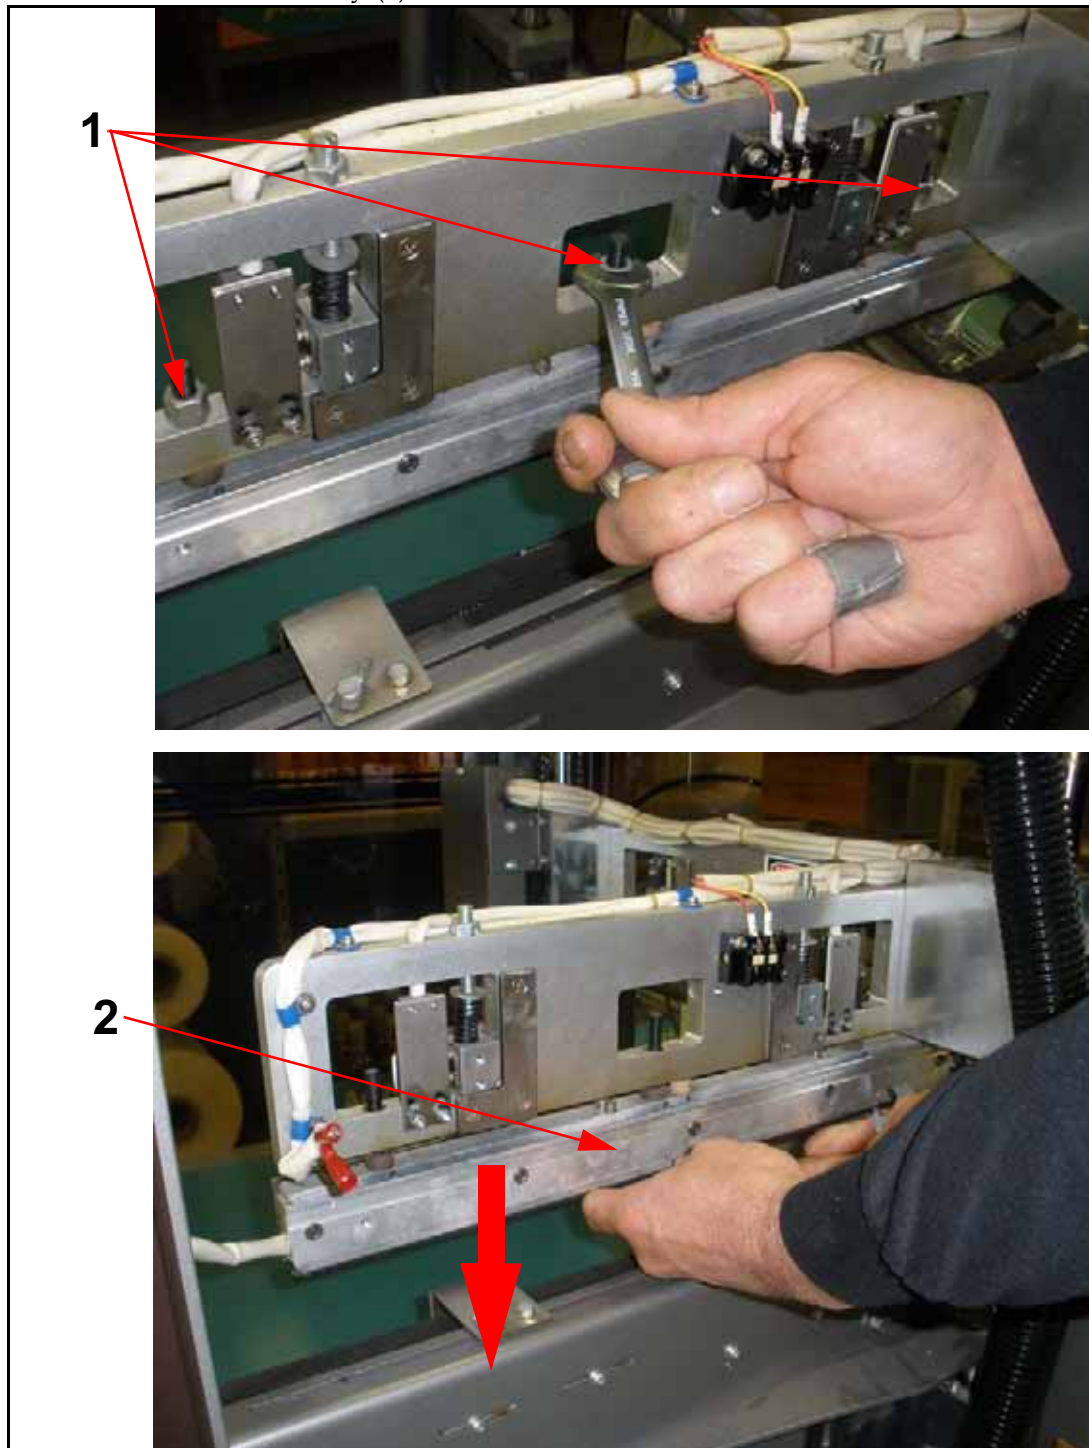

Figure 7-24. Seal Bar Removal
- 11 Unscrew mounting nuts (1 in Figure 7-24) and remove seal bar assembly (2).